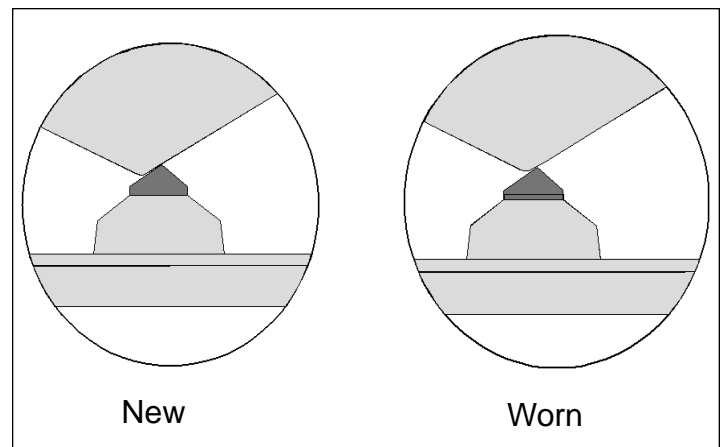

Figure 5 - Cam Shoe Inspection
3. Inspect cam shoes for wear. Replace if worn. See Figure 5.
4. Using a straight edge, inspect fixed half pulley and moving half pulley for wear. Replace if wear to pulley face exceeds .060 inches (1.52 mm.). See Figure 5.